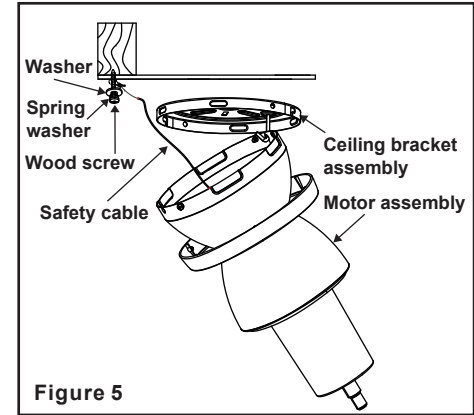

Figure 5
**Step 3.** Hang the motor assembly onto the hook from the ceiling bracket assembly. This will allow for hands-free wiring (Figure 5).
**Step 4.** Drive a wood screw and washers into the side of the brace that holds the outlet box. Leave 3mm (1/8") of space between the support brace and the washer. Insert the safety cable through the Ceiling bracket assembly and one of the holes in the outlet box into the ceiling. Adjust the length of the safety cable to reach the screw and washers by pulling the extra cable through the cable clamp until the overall length is correct, put the end of the cable back through the cable clamp, forming a loop at the end of the cable. Tighten the cable clamp securely. Now, put the loop in the end of the safety cable over the wood screw and under the washer. Tighten the wood screw securely. (Figure 5)